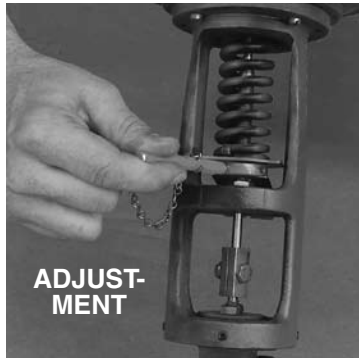

Figure 40
**Adjustment -** To increase the oil temperature, increase the spring tension by turning the knurled nut at the base of the spring. To decrease the oil temperature, decrease the spring tension by turning the knurled nut at the base of the spring (see Figure 40).